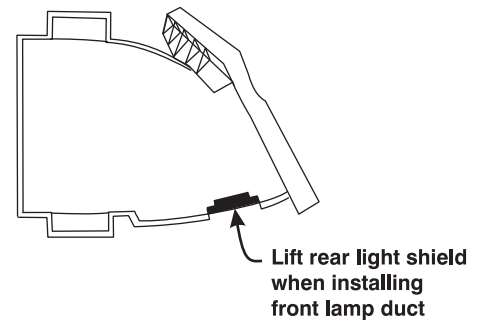

Figure 6-3 Light Shield on Front Lamp Duct
9. Re-install the front lamp duct. As you install the front lamp duct, lift the small light shield on the rear lamp duct cover so that it does not get jammed between the two pieces when they come together. (**Figure 6-3**) To ensure a good fit between the two pieces, squeeze the top and bottom cover snaps to ensure they are locked in place. The light shield should move freely to the touch.